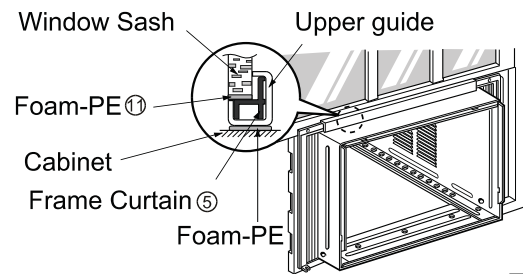

Fig. 2
2. Slide the unit out from the cabinet by gripping the base pan handle and pulling forward while bracing the cabinet. (Fig.2)
2. Pull the bottom window sash down behind the Upper Guide until they meet. (Fig. 2)
**NOTE:** Do not pull the window sash down so tightly that the movement of Frame Curtain ⑤ is restricted.